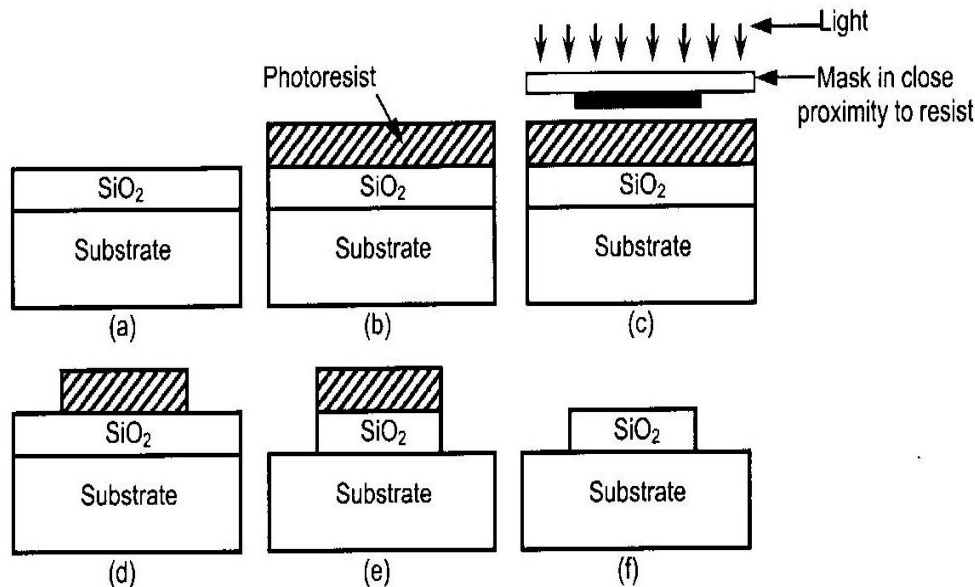

Figure 2
4. Figure 2 shows a wafer undergoing the various steps of a photolithography process. (i) List the steps involved in the process from (a) to (d). (ii) Identify the type of resist used. (iii) Recommend a suitable method from Step (e) to Step (f). Explain your recommendation. (iv) Identify the type of exposure system used and briefly explain its relevance in today's semiconductor manufacturing.